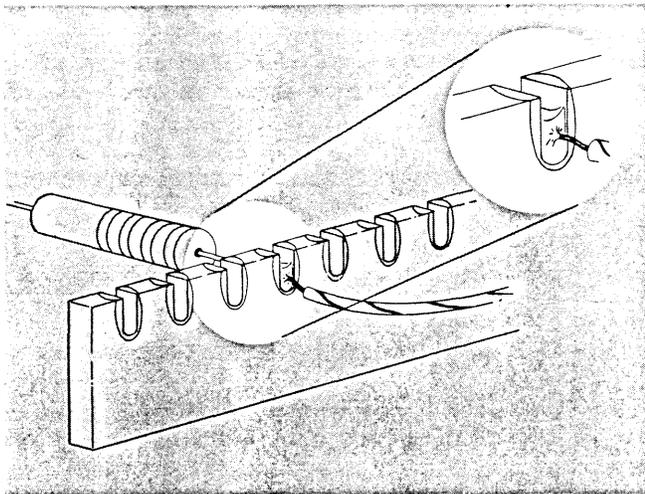

Fig. 4-3. A slight fillet of solder is formed around the wire when heat is applied correctly.
6. Do not attempt to completely fill the notch on the strip with solder; instead, apply only enough solder to cover the wires adequately, and to form a slight fillet on the wire as shown in Fig. 4-3.